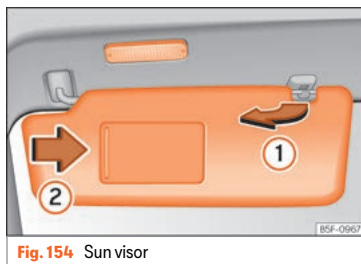

Fig. 154 Sun visor
- The sun visor can be pulled out of its mounting and turned towards the door » **Fig. 154 ①**.